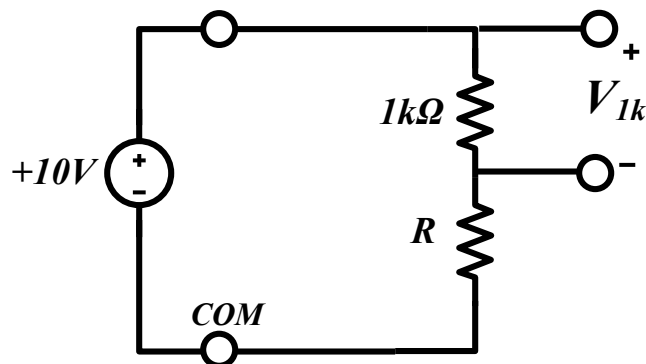

figure 7
2. Now measure V_{1k} , as indicated in fig 7, following the convention defined above. Can you verify that Kirchoff's Voltage Law is obeyed?